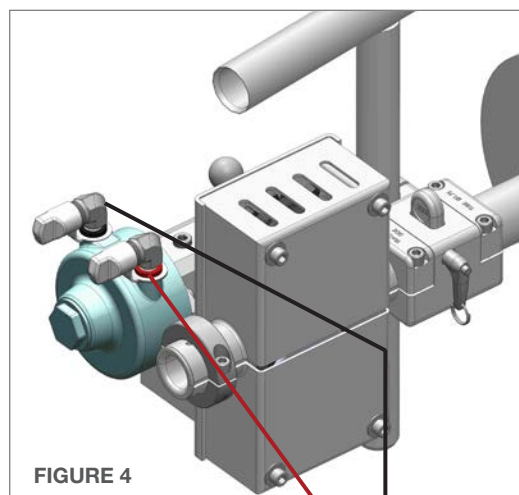

FIGURE 4
4. Remove the two socket head cap screws, Roller Washers, Outer Hub Plates and Spline Rollers. **(Figure 4)**
4. Pull the Dust Caps off the Pneumatic Air Fittings. Connect the Pneumatic Supply Lines from the Control Box to the ProDrive Assembly. Pay attention to the color coded tabs on the air fittings of the Air Motor and the Control Box. Connect the red hose to the red banded air fittings and the black hose to the black banded air fittings. **(Figure 4 & 5)**